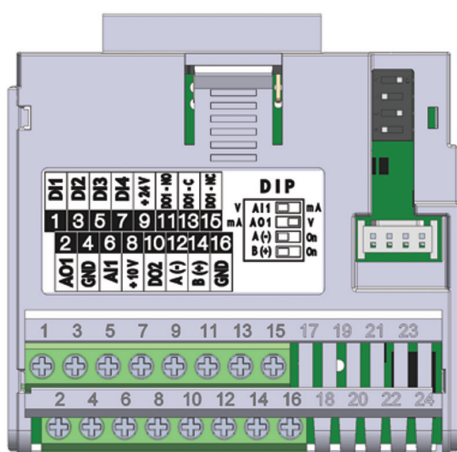

Figure 17.1: Plug-in module CFW500-IOS
The CFW500-IOS plug-in module has only Serial (1) interface through RS-485 port at terminals 12(A-) and 14(B+), see Figure 17.1 on page 17-1.